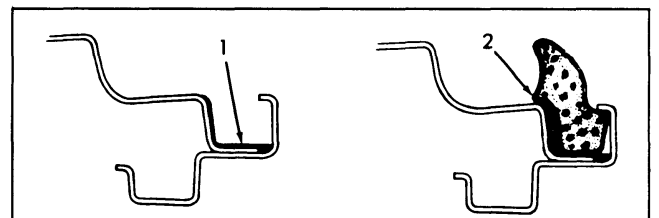

Fig. 15-10 Cross Section of Rear Compartment Gutter and Weatherstrip
2. Apply (brush) a continuous coat of weatherstrip cement (neoprene type) along the lower and outer surfaces of the rear compartment gutter (1 in Fig. 15-10) around full length of gutter.
5. Using a pressure type applicator, apply weatherstrip cement (neoprene type) between weatherstrip and outer surface of gutter (2 in Fig. 15-10) completely around gutter to assure a watertight seal.